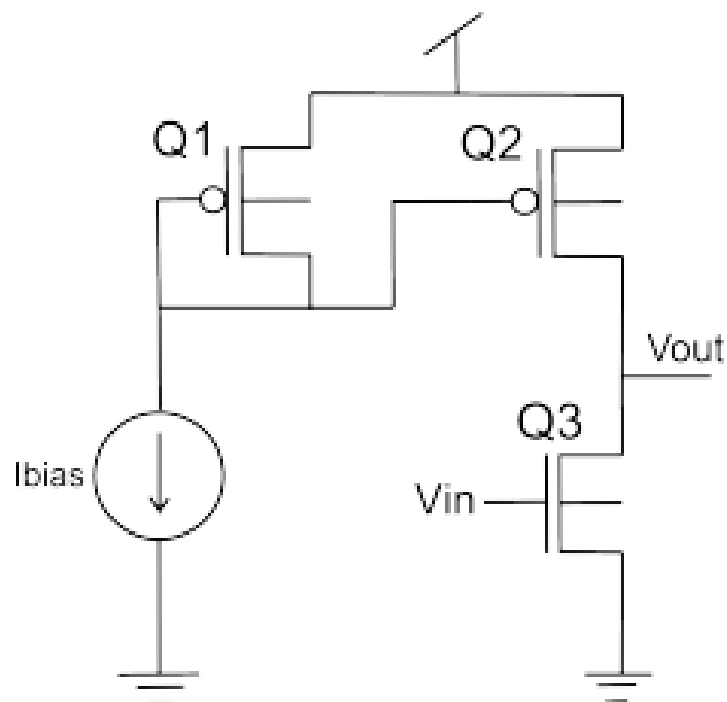

Figure 3: A common-source amplifier with a current-mirror active load.
b) Do you know a name for the circuit depicted in Figure 3?
c) Could you explain about a couple or more useful applications for the circuit in Figure 3?